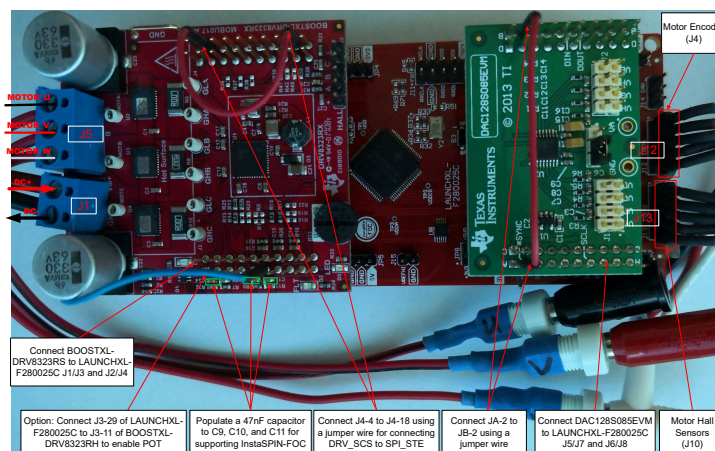

Figure 2-7. LAUNCHXL-F280025C Connects BOOSTXL-DRV8323RS and DAC128S085EVM
- Make sure that the following items are set as described below, and then connect **BOOSTXL-DRV8323RS** to J1/J3 and J4/J2 site of **LAUNCHXL-F280025C** as shown in **Figure 2-7**.
- Connect the motor, encoder, and hall sensors to the kits as described in **Table 2-2** and shown in **Figure 2-7**.